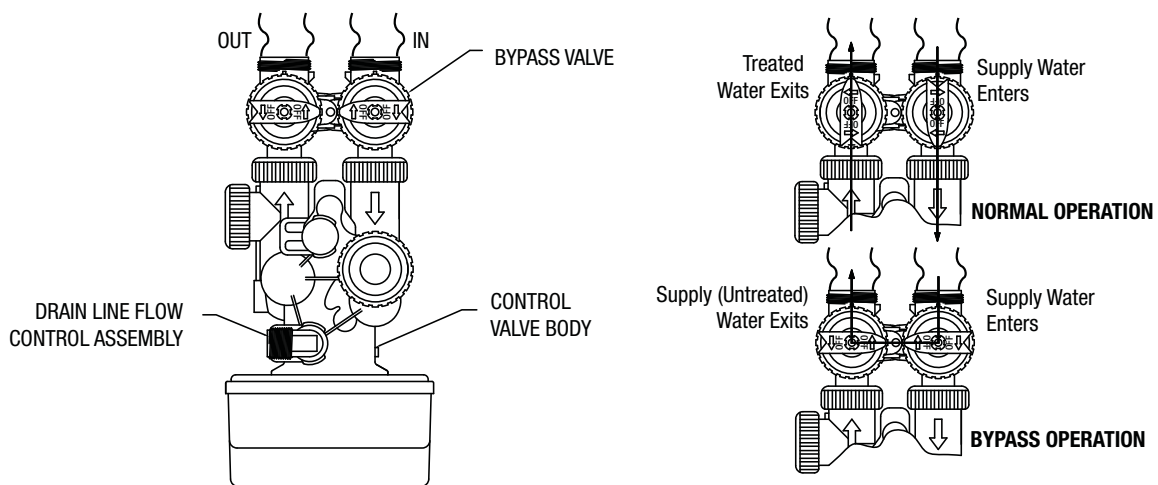

Figure 3. FILTER ASSEMBLY TOP VIEW
- Locate the bypass valve assembly and connection fittings shipped with the sulfur reduction unit. Assemble the connection fittings and attach to the bypass valve as shown in Figure 3.
Set feed pump stroke length to 50%. Make certain that filter bypass valve is in bypass position (Figure 3). Turn on power to well pump. Allow water system to repressurize. After system has pressurized check for leaks in plumbing.
- d) Partially open the inlet knob on bypass valve (Figure 3). This will allow the unit to fill slowly from the bottom up, reducing air entrapment. Allow the unit to fill slowly, failure to do so could result in loss of resin to the drain. Once a steady stream of water, with no air sputtering, is flowing to the drain, the inlet and outlet bypass knobs can be fully opened (refer to Figure 3).